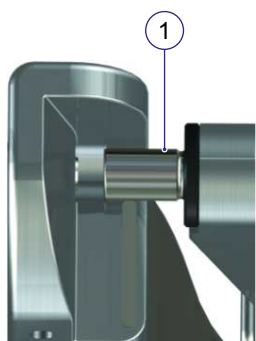

Figure 5.71 Attachment pin of the immobilization device
When you push the lever in, a through pin (2) meets with the attachment pin (1) (see Figure 5.71) of the immobilization device on the other side of the docking device. This holds the immobilization device in position.